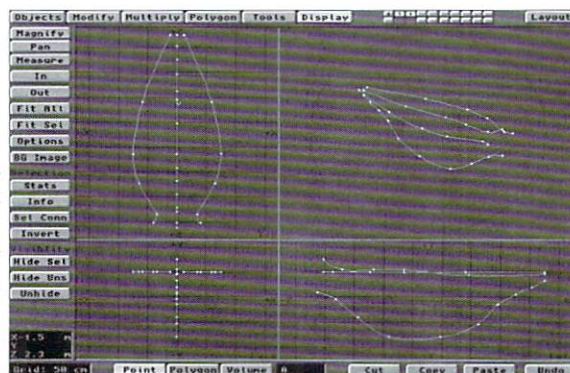

Figure 2: The body splines.
•On another layer, working from the Top View, draw two spline curves using the Sketch (Objects panel) tool that resemble those shown in Figure 2. Copy them to another layer. Use the Rotate (Modify panel) tool from coordinates 0, 0, 0, and rotate the splines 90 degrees. Now, use the Stretch (Modify panel) tool to scale the height to .75 of the Y value. Copy them back to the layer occupied by the other splines. Put this into a background layer and select the Rail Extrude (Multiply panel) tool. Now, set the Segments option to Lengths and Uniform and change the Segments value to 30. Turn on Oriented and Scaling and hit OK.